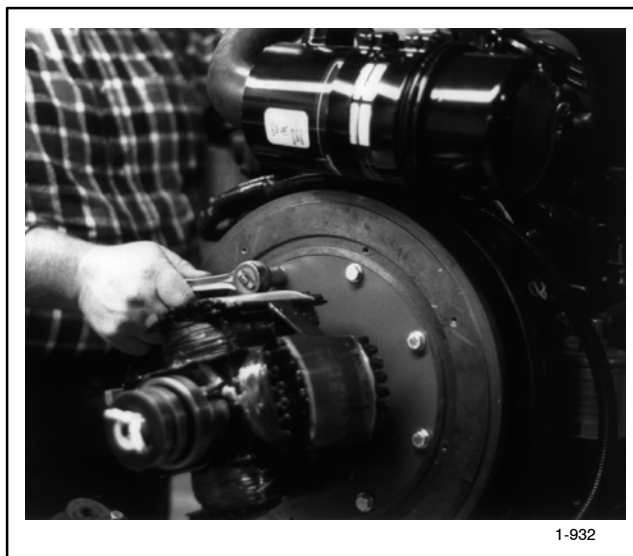

Figure 8-13. Removing the Rotor
23. Remove the rotor drive disk from the engine flywheel. See Figure 8-13.